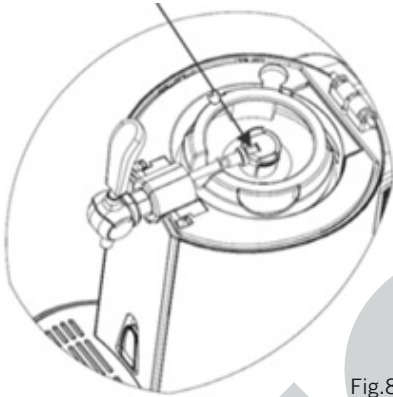

Fig.8
10. Now attach the adapter for “fresh kegs”, which is connected to the beer tap system, to the keg with sufficient pressure (Fig. 8).